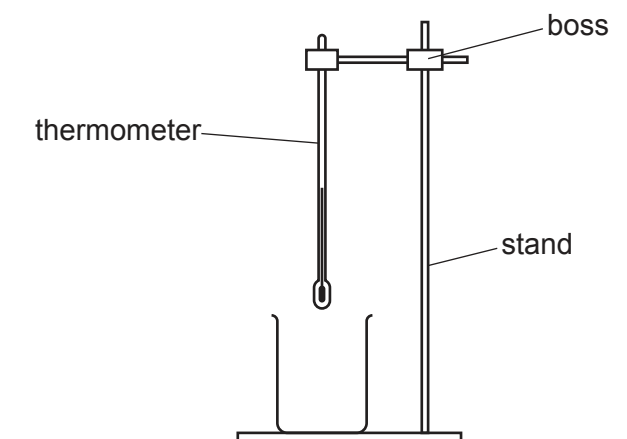

Fig. 2.1
- 1 The boss, clamp and stand must be set up for candidates with the thermometer clamped securely, with its bulb above the beaker, as shown in Fig. 2.1. If possible, clamp the thermometer above the 90 °C mark on the thermometer.
Empty the water from the beaker and reposition the thermometer as shown in Fig. 2.1.